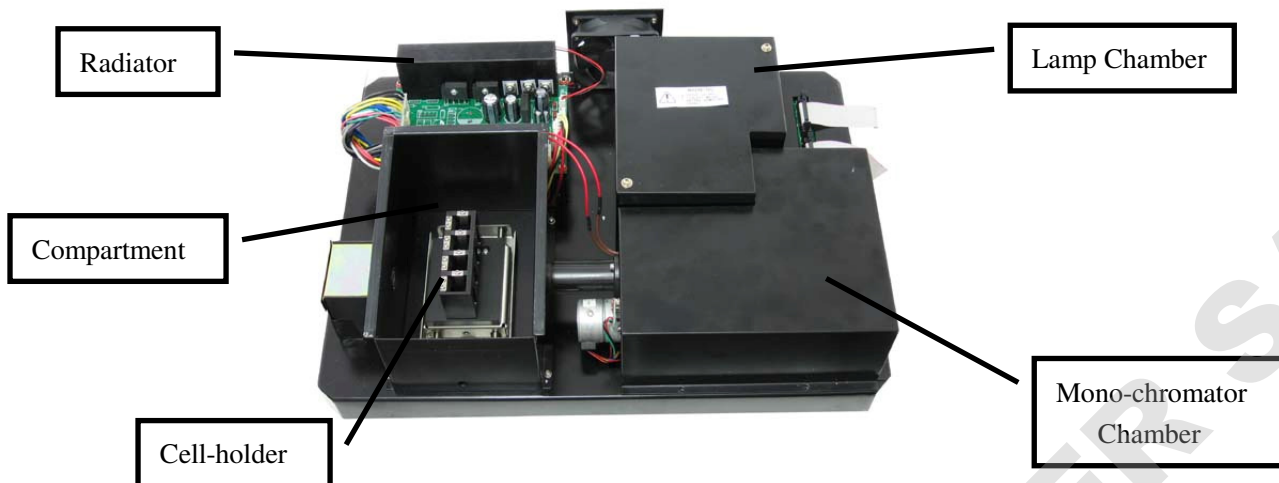

Fig.4-1 Inside Planform
- 5) Unscrew the two screws from the **Lamp Chamber** (Fig.4-1) and remove its cover.